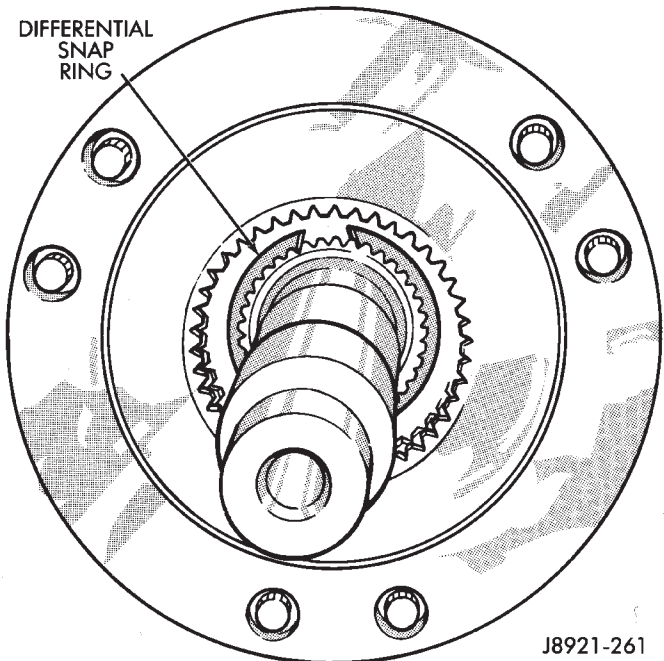

Fig. 22 Removing Differential Snap Ring
(34) Remove differential snap ring (Fig. 22).